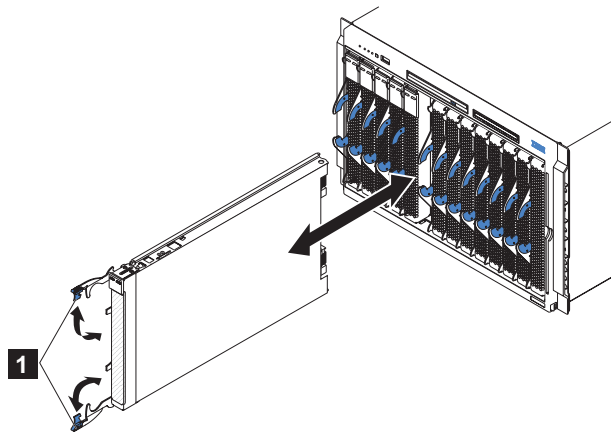

Figure 12. Installing the blade server in a BladeCenter unit
5. Verify that the release handles on the blade server are in the open position (perpendicular to the blade server, as shown in **1** in Figure 12 on page 256).